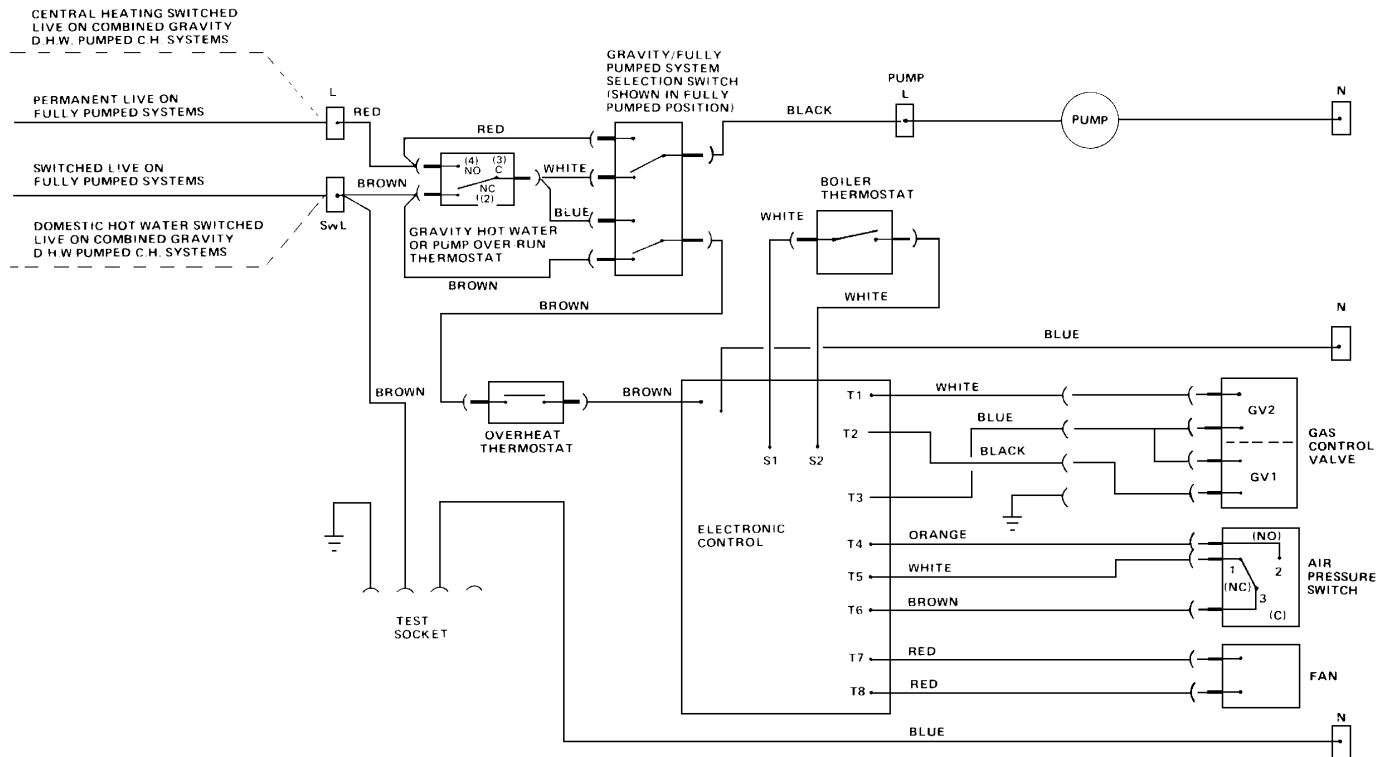

FIG. 27 FUNCTIONAL FLOW DIAGRAM
Refer to Fault Finding Chart FIG. 31 and Wiring Diagram FIGS. 27, 28.
4. Disconnect the electrical supply wires from the gas control valve noting their position. Refer to FIGS. 27, 28.